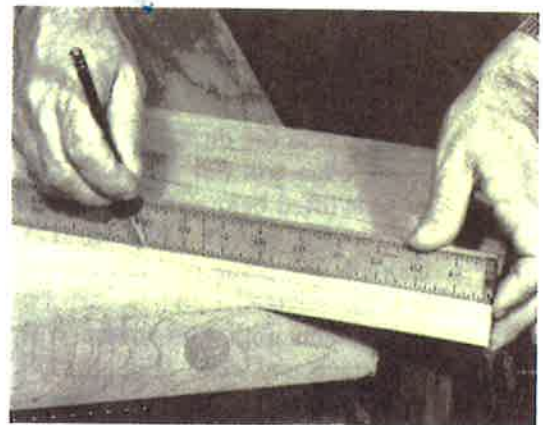

Fig. 10-17. Measuring a board for length.
1. Measure the board for the length needed, and mark it (Fig. 10-17). Allow an extra $\frac{1}{16}$ inch for sawing and planing.